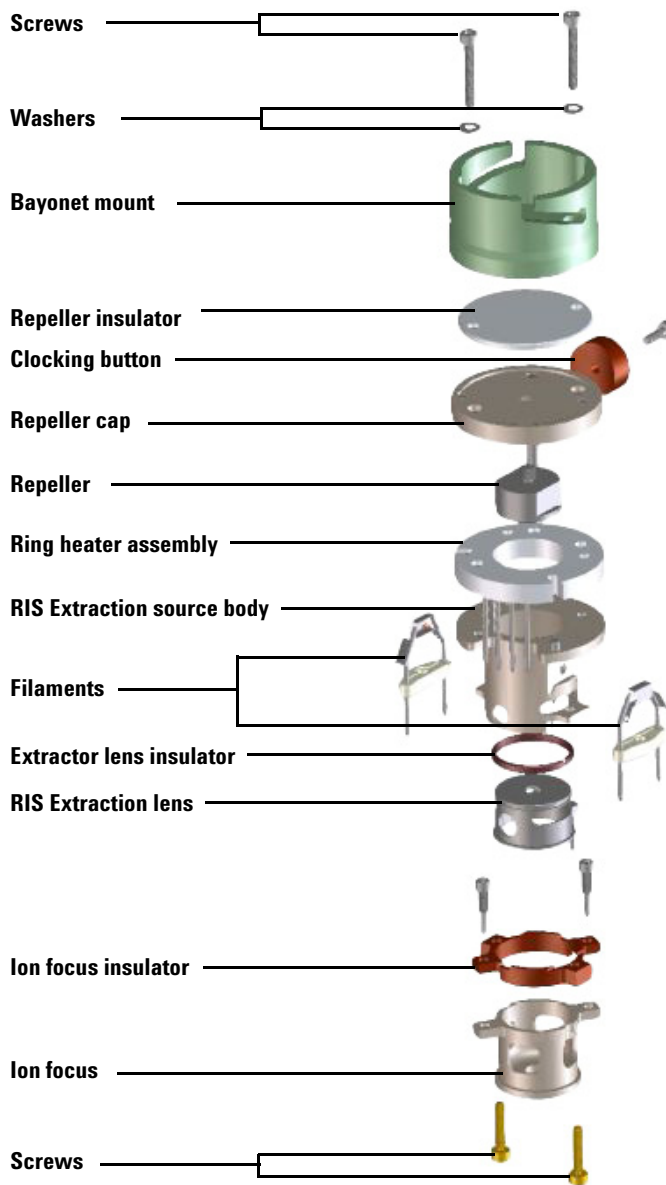

Figure 23 Disassembling the EI ion source
- 3 Separate the ion focus and insulator assembly from the source body. (See Figure 23.)
- 8 Disassemble the repeller assembly by separating the repeller, the repeller cap, ring heater and sensor assembly. (See Figure 23.)
- 9 Remove the clocking button from the repeller cap by removing the screw that holds it in place. (See Figure 23.)
- 5 Attach the extractor lens insulator to the extractor lens, and slide them onto the other end of the source body (Figure 23).